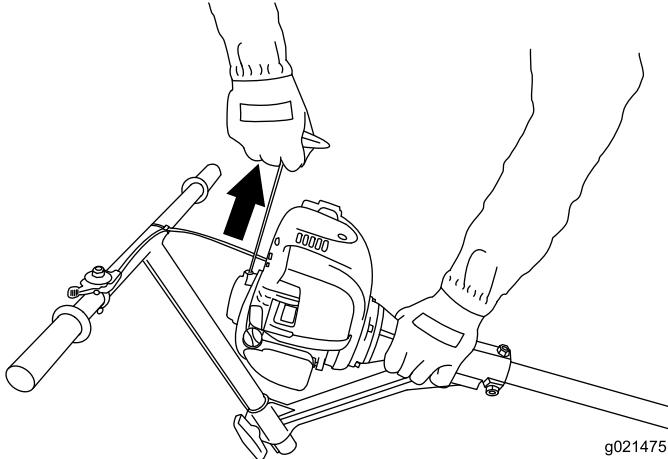

Figure 20
- Pull the recoil-start handle lightly until you feel resistance, then pull the handle briskly (Figure 20).